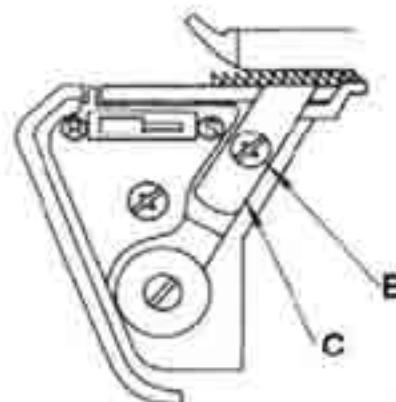

Fig. 111
2. Adjust the upper blade **18** into the rest position (A).
3. Remove the screw on the lower blade **22** (B) and remove the blade **22** (C) (Fig. 111).